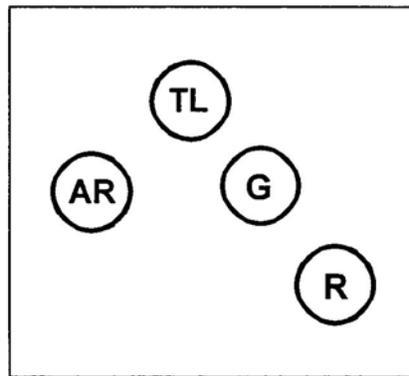
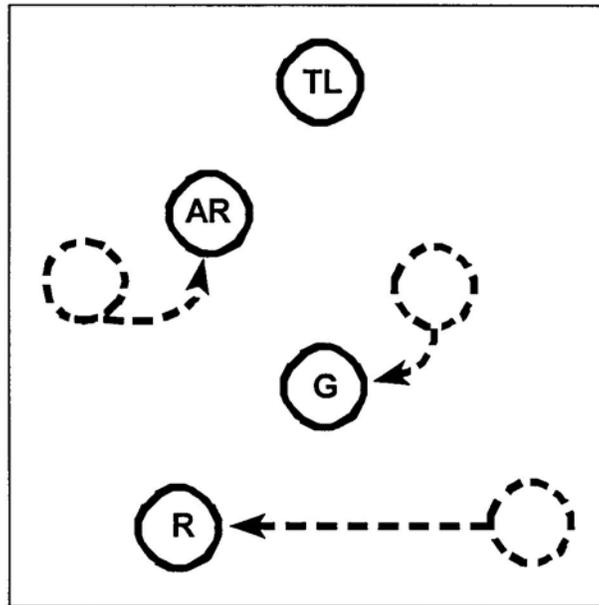
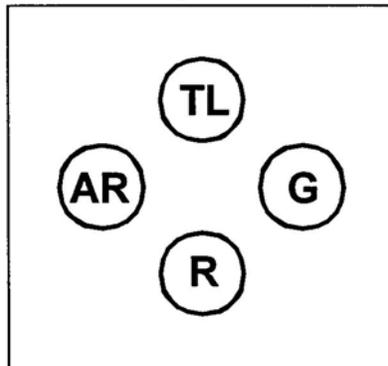
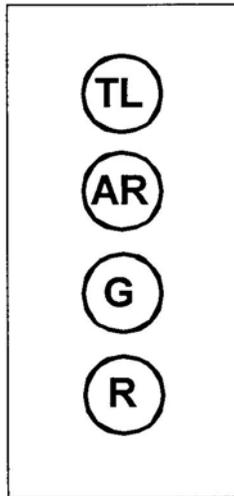

Figure 1. Fire team wedge.
Figure 2. Modified fire team wedge.
Figure 3. Fire team diamond.
Figure 4. Fire team file.
**Evaluation Guidance:** Score the soldier GO if all steps are passed (P). Score the soldier NO-GO if any steps are failed (F). If the soldier fails any steps, show what was done wrong and how to do it correctly.
1. Fire team formations describe the relationship of the soldiers in the fire team to each other. Standard fire team formations are the wedge (Figure 1), modified wedge (Figure 2), diamond (Figure 3), and file (Figure 4).
- a. Fire team wedge (Figure 1). This is the basic fire team formation. It has the following characteristics:
- (1) Is easy to control.
- (2) Is flexible.
- (3) Allows immediate fires in all directions.
- (4) Provides all-round local security.
- b. Modified wedge (Figure 2). When rough terrain, poor visibility, or other factors reduce control of the wedge formation, the sides are closed up to (almost) a single file. When moving in less rugged terrain and control becomes easier, soldiers resume their original positions. The modified wedge can also be used for extended periods when traveling on roads or trails. It has the following characteristics:
- (1) Is easier to control in reduced visibility or rough terrain.
- (2) Provides less security to flanks than a wedge but more than a file.
- (3) Masks fires initially to the front and rear for the majority of the team.
- c. Fire team diamond (Figure 3). This formation is a variation of the wedge. It is most often used when the fire team is operating alone or is the lead security element (point) for a column or file. It has the same characteristics as a wedge except there is--
- (1) Reduced frontage.
- (2) Increased security to the rear.
- (3) Immediate fires in all directions, but one man's fires are always masked.
- d. Fire team file (Figure 4). When the fire team is not using a wedge or diamond formation, it uses the file. The characteristics of the file are as follows: